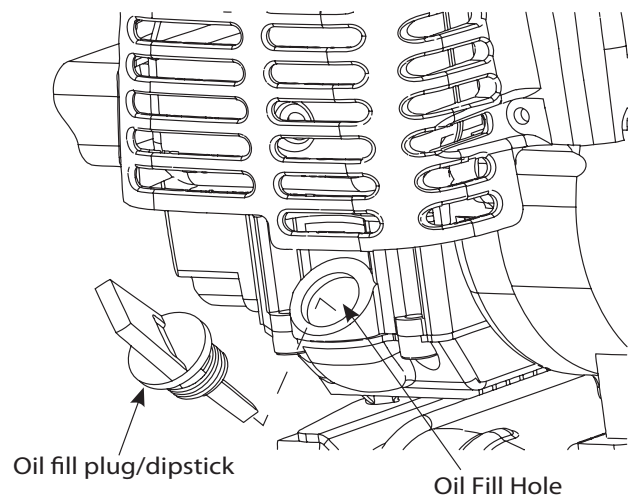

Fig. 7
3. Remove the oil plug / dipstick from the crankcase (Fig.7).
4. Pour the entire bottle of oil into the oil fill hole (Fig. 7).